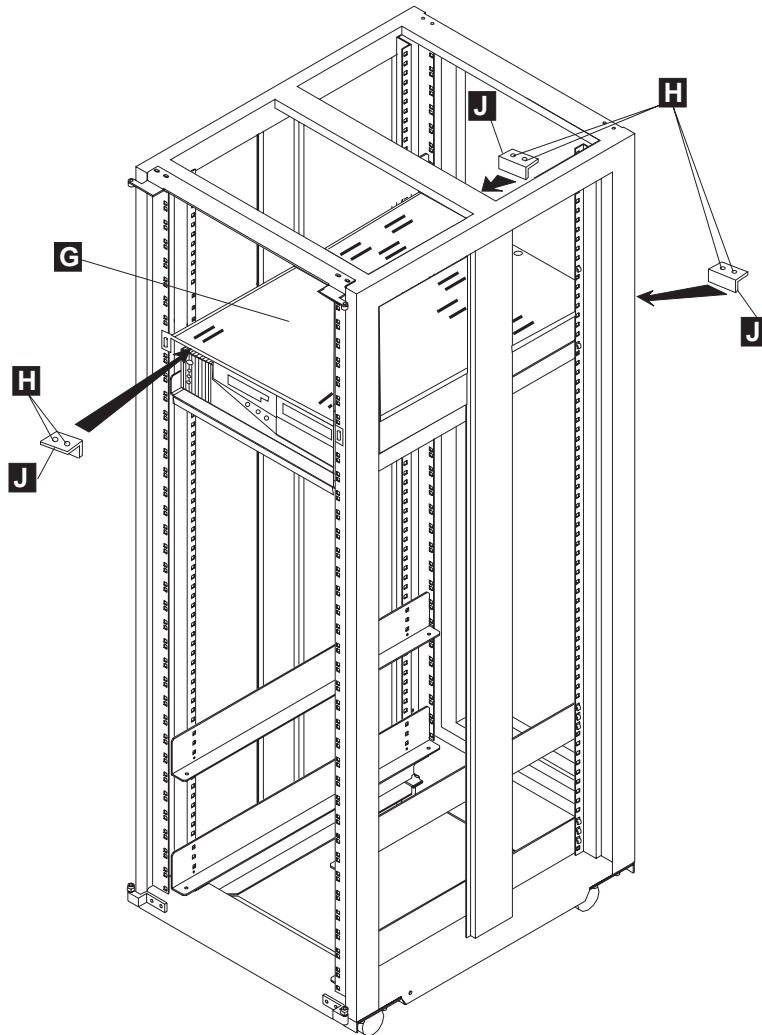

Figure 5-10. NAS and Upper Plate Installation
5. On the front of the rack install the retainer **J** and secure it with screws **H** (see Figure 5-10 on page 5-11).